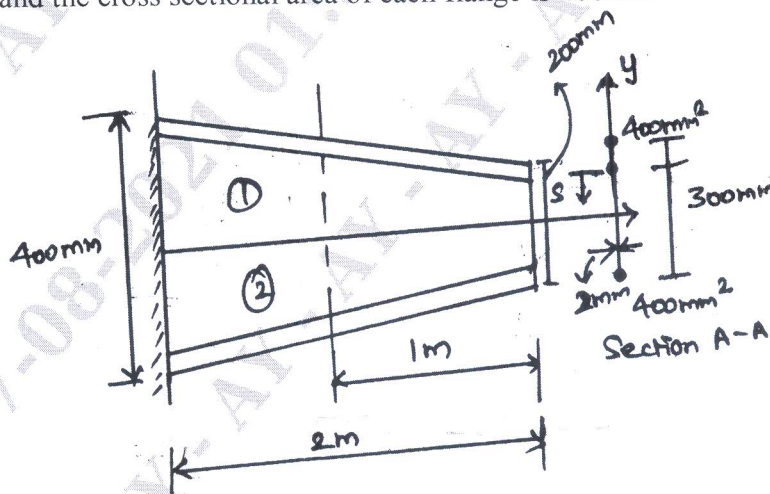

Fig Q6(a)
- 6 a. Determine the shear flow distribution in the web of the tapered beam shown in Fig Q6(a) at a section midway along its length. The web of the beam has a thickness of 2mm and is fully effective in resisting direct stress. The beam tapers symmetrically about its horizontal centroidal axis and the cross sectional area of each flange is 400mm^2 .